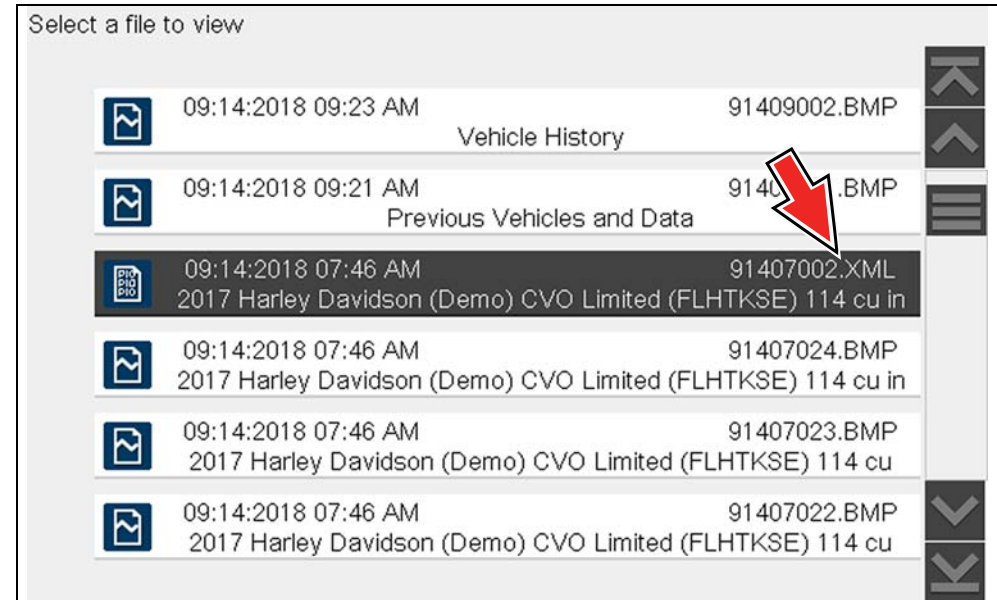

Figure 5-3 Typical - Code Results (.XML) file
When code scan or single system code results are saved, they are saved in (.XML) file format (Figure 5-3).
3. Select the code scan report .XML file from the list to view the file (Figure 5-3).